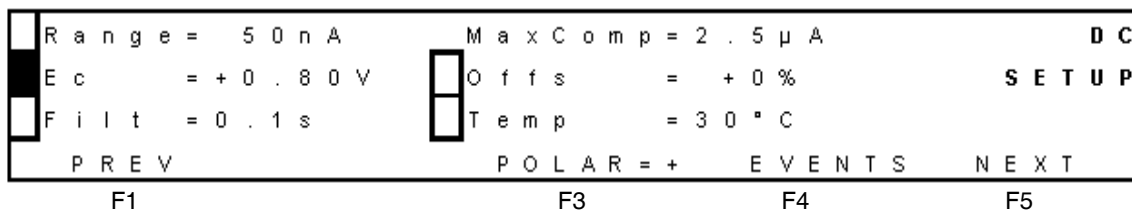

Figure 3-15 DC Setup Screen
- From the Main screen, select **F2 DC**. The DC Setup screen appears (Figure 3-15).